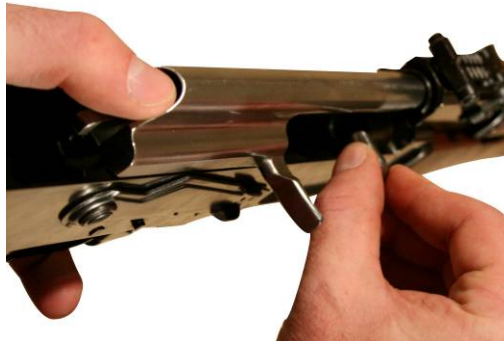

Figure 12. Inserting the Headspace “Go” Gage.
1. Pull the bolt carrier to the rear and insert the headspace “go” gage into the chamber. Refer to Figure 12.